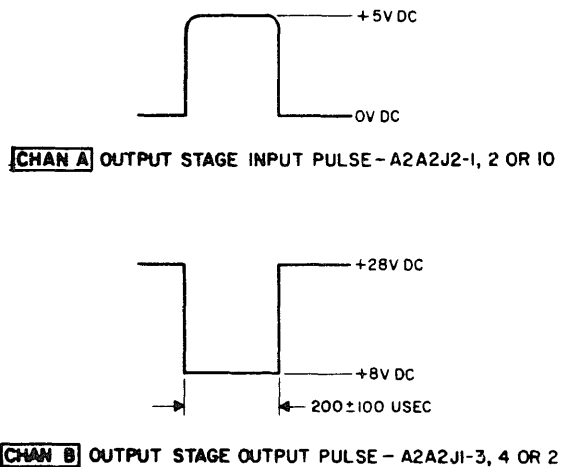

Figure 3-11. Logic module A2A2 output stage input-output waveforms
(1) INPUT indicator flashes approximately once every 3.6 seconds.
(2) LOGIC 1, 2, and 3 indicators flash simultaneously and synchronously with INPUT indicator flashes.
(3) Oscilloscope displays waveforms shown in figure 3-11.